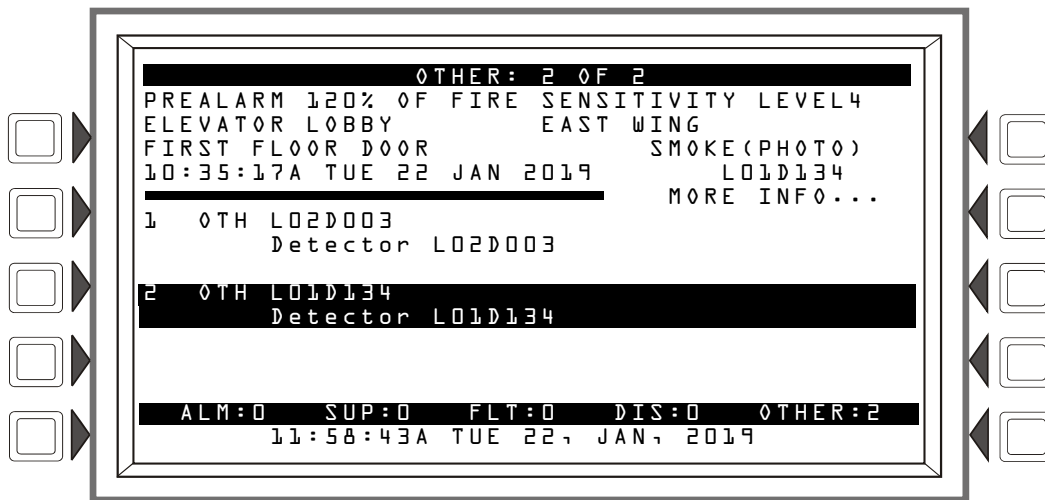

Figure 2.8 Sample CO Prealarm Message
- Displays CO PREALARM in the upper left corner of the LCD, the type code and other information specific to the detector as shown in Figure 2.8.